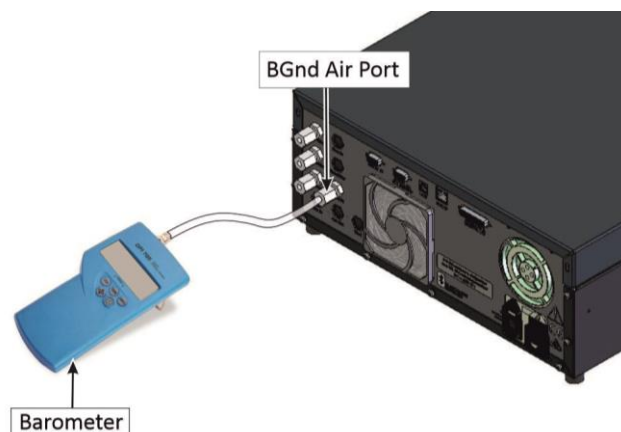

Figure 113 – Pressure Calibration (Internal Pump Option Only) Set-up
4. Refer to Figure 113. Connect a barometer to the **BGnd Air Port**.